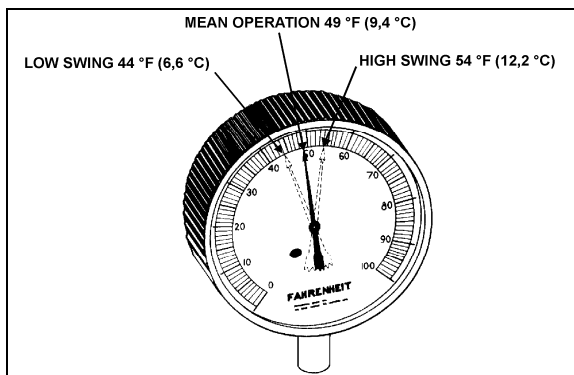

FIGURE 34: HIGH & LOW SWING TEMPERATURE AT REMOTE BULB²²⁰⁴⁷
6. Check approximately 5 readings of pressure at 2-minute intervals and convert to temperature using the temperatures & pressures table (page 33). Likewise check the temperature reading at the remote bulb at the same 2-minute intervals and record the low and high swing readings of the needle (refer to Fig. 34).
Example of readings taken at fig. 34: